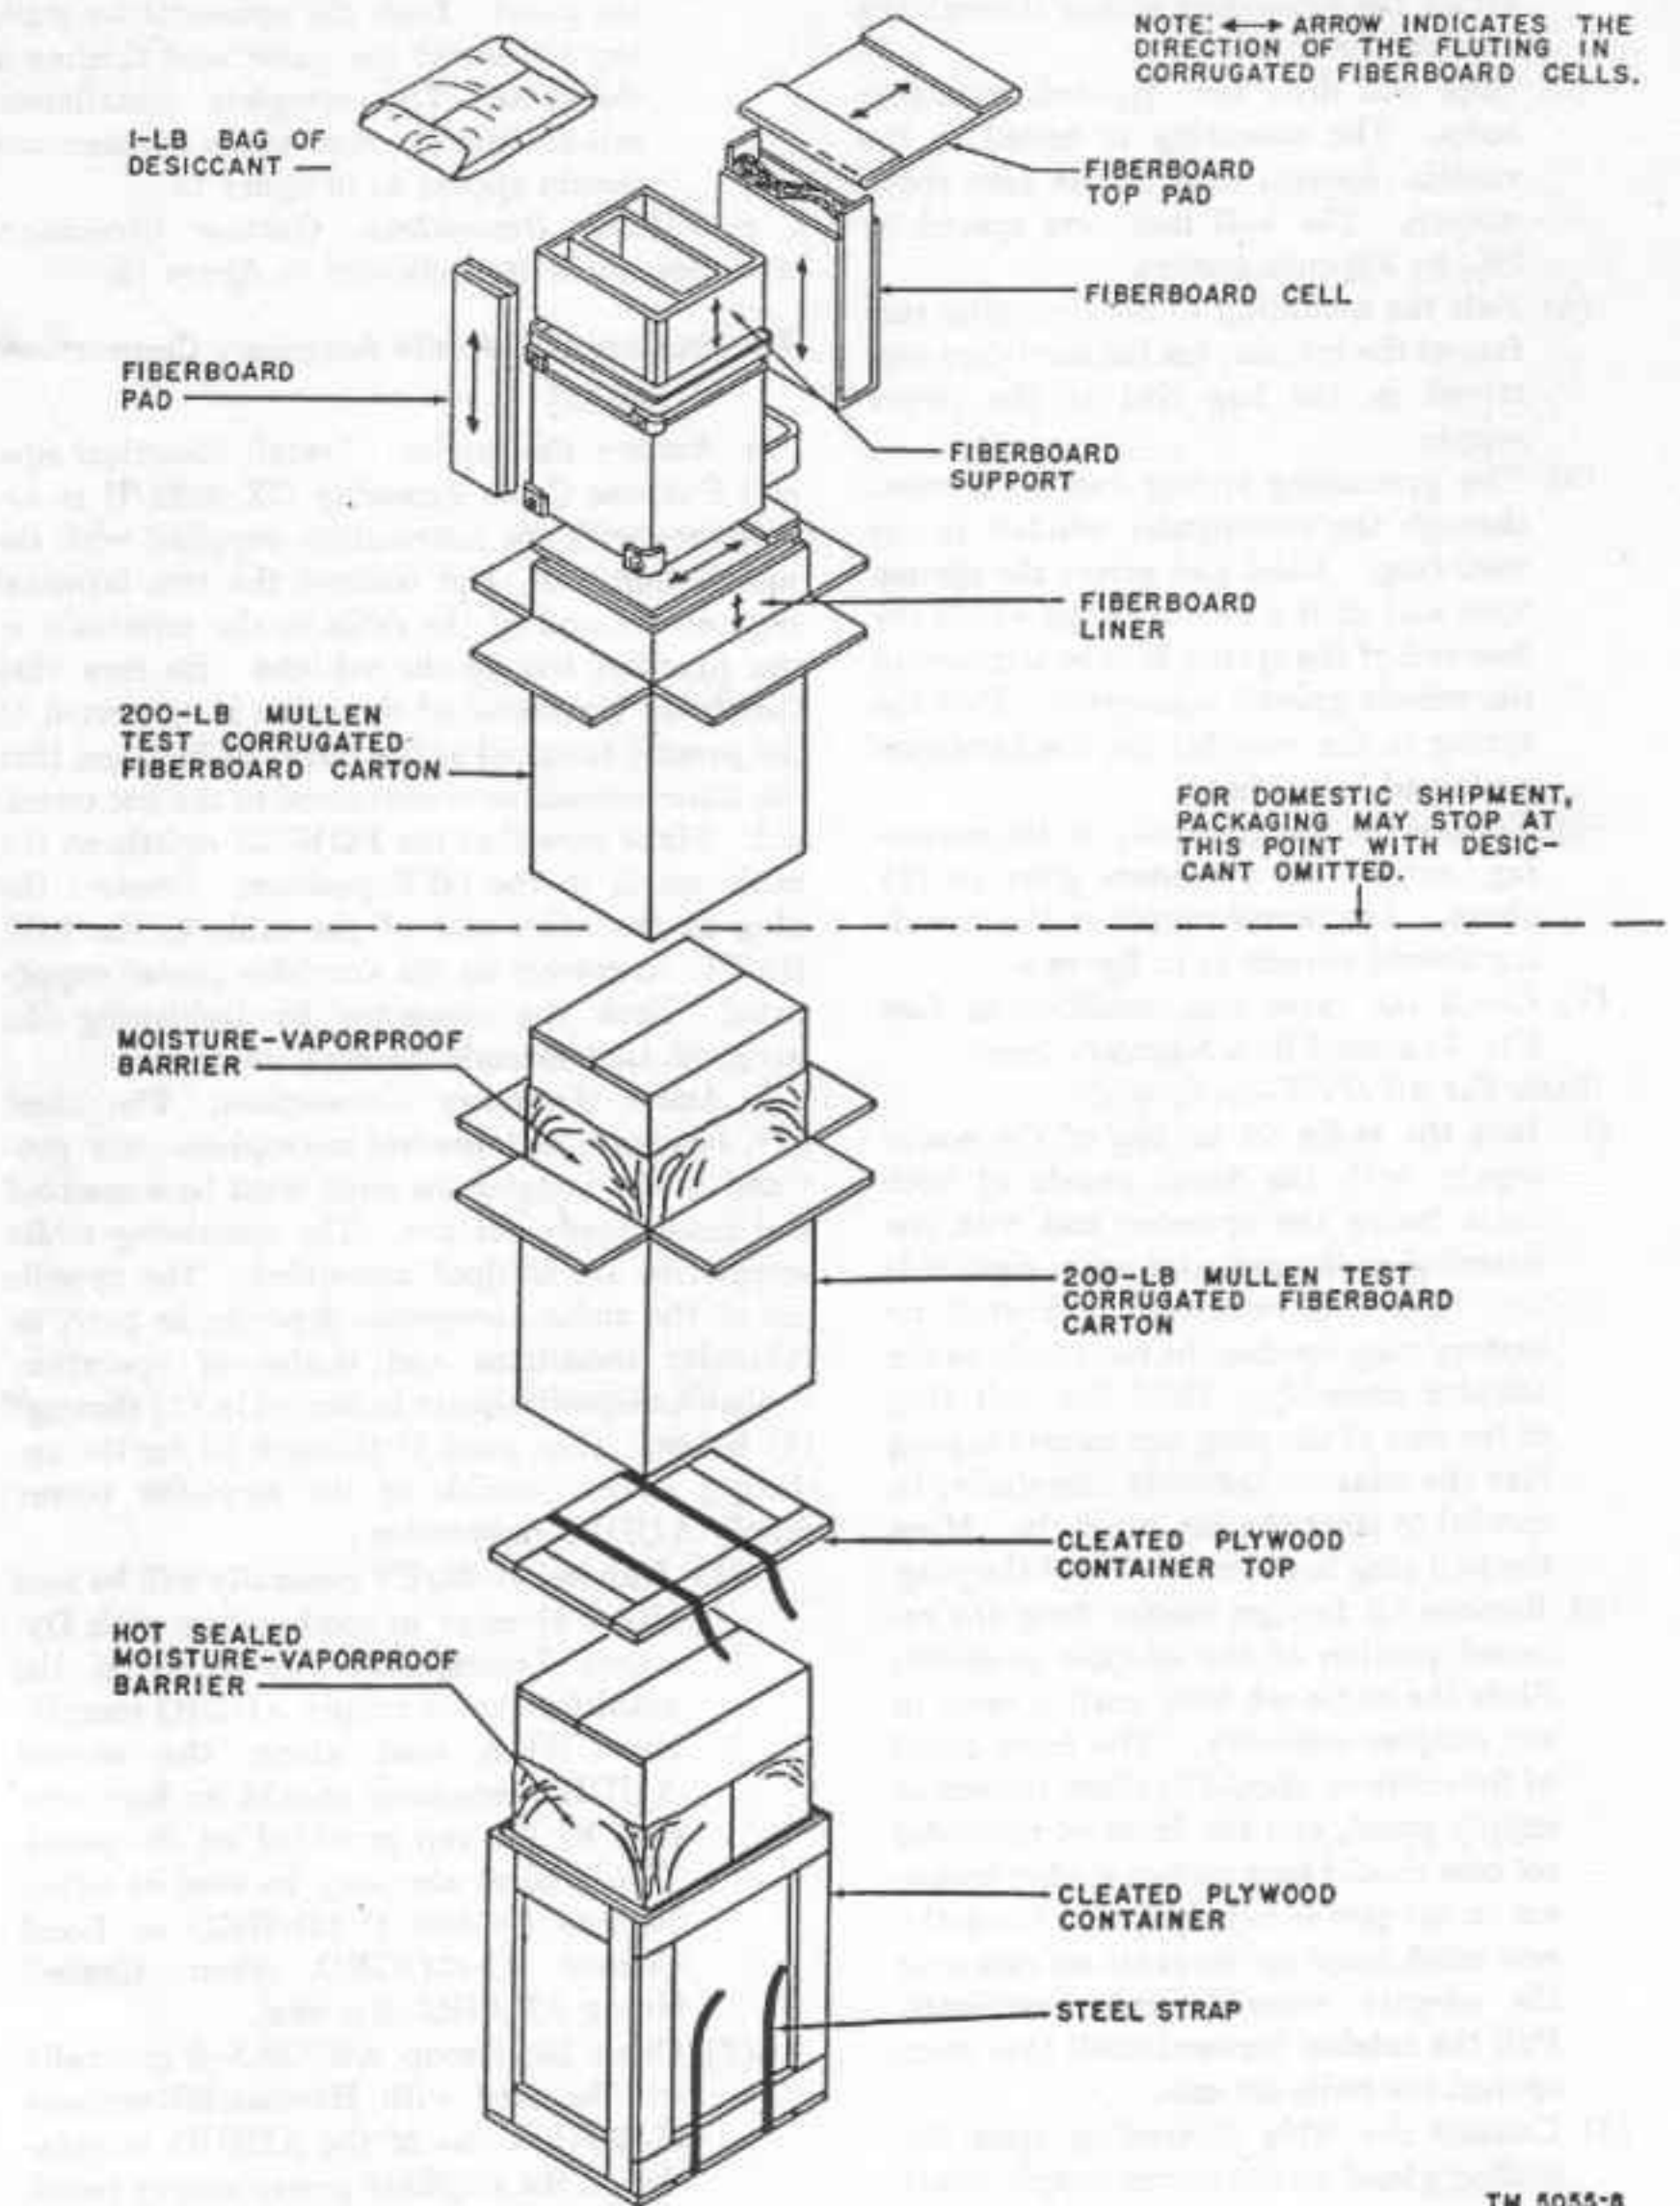

Figure 14. Packaging diagram.
b. Step-by-Step Instructions for Uncrating and Unpacking Export Shipments (fig. 14).
- (1) Cut and fold back the steel straps.
- (2) Remove all the nails with a nail puller. Remove the top of the packing case. Do not attempt to pry off the sides; the equipment may be damaged.
- (3) Open the moistureproof barrier. Open the corrugated carton and remove the desiccant and fiberboard supports.
- (4) Remove the equipment from its inner case.
- (5) Inspect the equipment for damage incurred in shipment.